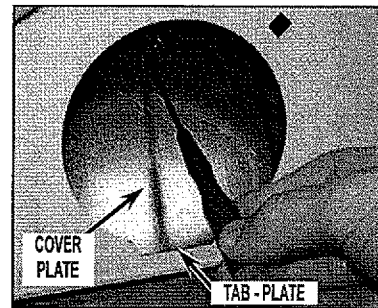

FIGURE 8
- Plug the 4" hole in the rear panel that the existing exhaust vent ran through using a metal cover plate included with kit. Use screw included with kit to secure plate in position. Install plate from the inside of the dryer with the plate tab positioned as shown in Figure 8.
NOTE: To aid in installation, take a screwdriver, inserting it into the larger hole in the cover plate and pulling the plate toward the rear as shown in Figure 8 and 9. Use a Phillips screw driver to secure the screw into the smaller hole.